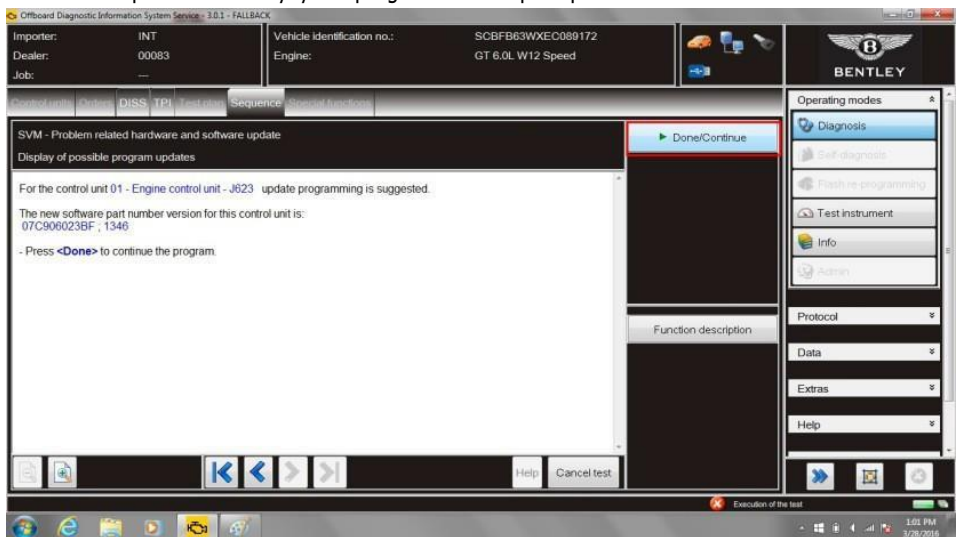

Figure 4
14. At *program updates* screen select *Done* to update 01 – **Engine control unit – J623 control unit** (see Figure 4)